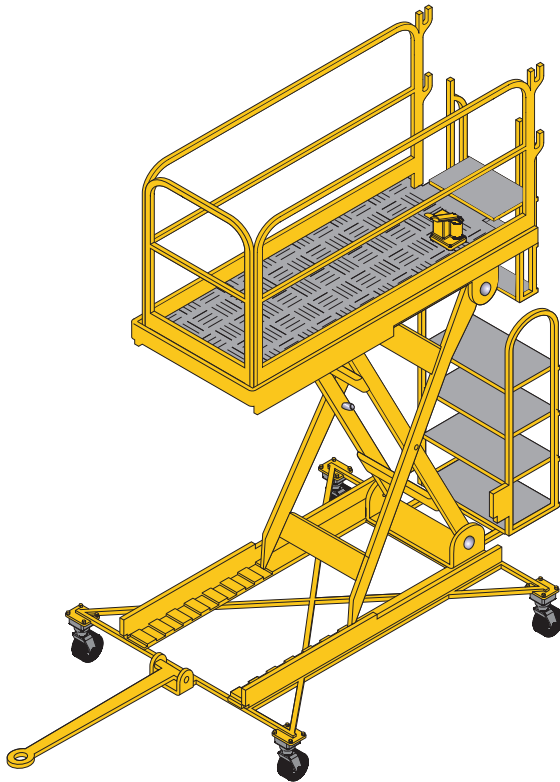

Figure 7
- 7 Paint the model as shown (see Figure 7 below). Paint the model yellow overall with steel tread plates and platform. Tyres are matt black.